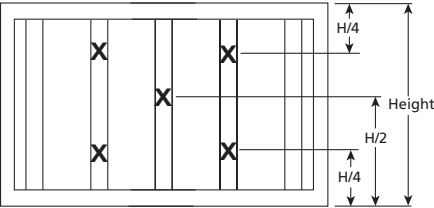

Figure 10
- b. Measure the velocities. Velocity measurements should be taken at five locations per filter. These must be over a filter slot as shown in Figure 10.